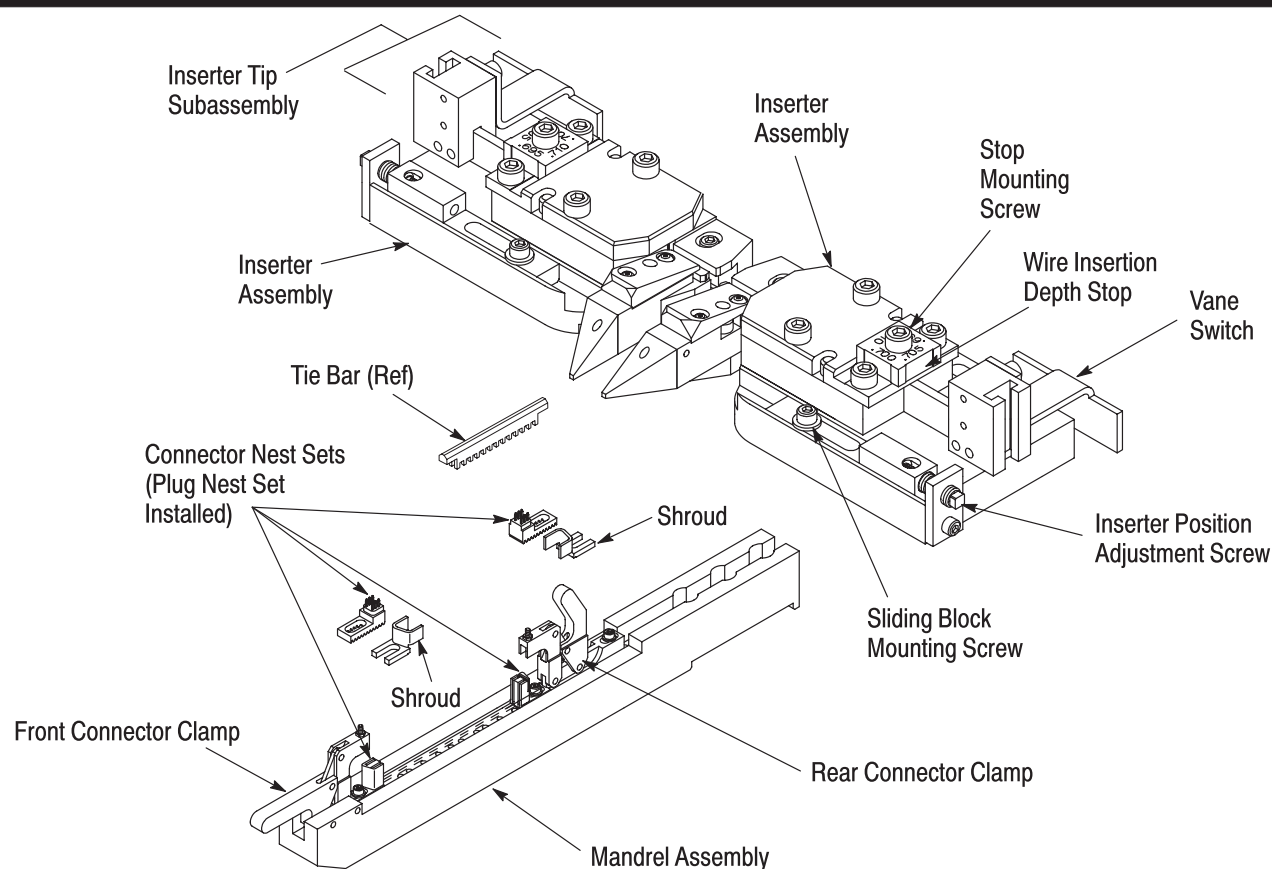

Figure 1
2. DESCRIPTION (Figure 1)
4. Loosen the sliding block mounting screw. Refer to Figure 1.
5. While viewing the inserter guiding surfaces, use a 5/32-in. open-end or box wrench and turn the inserter position adjustment screw to move the assembly. Refer to Figure 1. Turn the screw **CLOCKWISE** to move the assembly **AWAY** from the connector, and **COUNTERCLOCKWISE** to move the assembly **TOWARD** the connector.
The length of travel of the inserter ram may be adjusted. Normally, the inserters will not require this adjustment unless the insulation diameter is changed. To adjust the depth, refer to Figure 1 and proceed as follows: